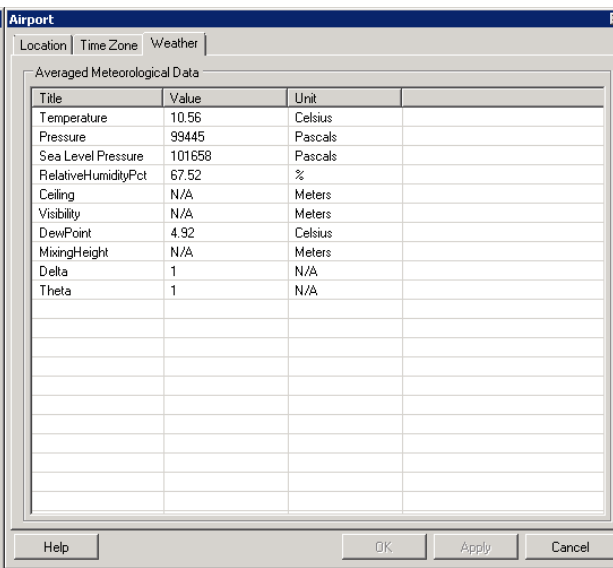

Figure 5-14 Airport Dialog Box – Weather Tab
- The *Weather* tab (Figure 5-14) is read-only.